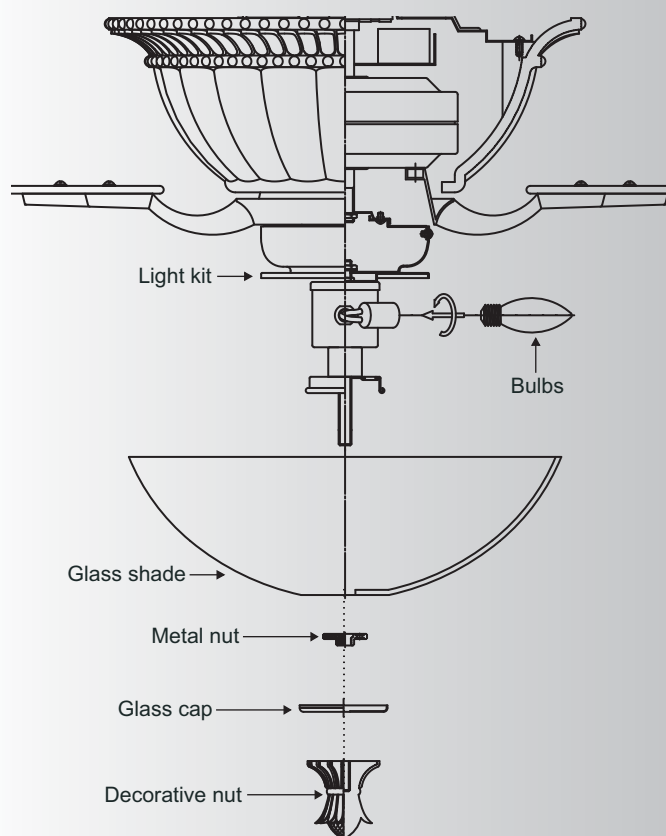

Fig. 20
2. Remove the decorative nut, glass cap and metal nut from the light kit. Place glass shade over the light kit stem, secure with the metal nut (rubber side on the top), add the glass cap and decorative nut. Do not overtighten. (Fig. 20)